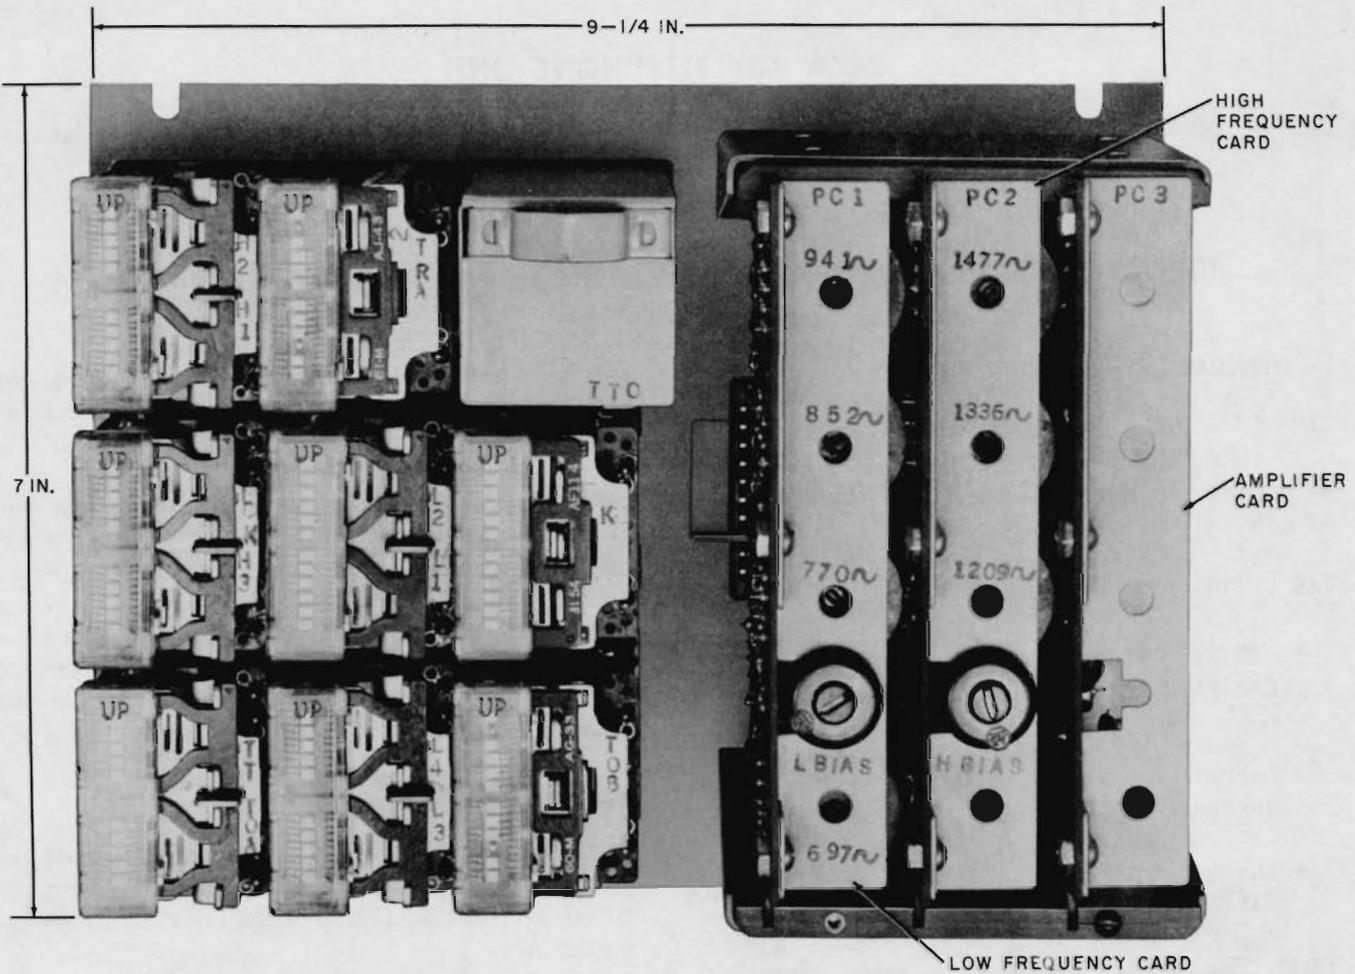

Fig. 1 — 247A KTU, TOUCH-TONE Adapter, Front View
2.01 The 247A KTU (Fig. 1 and 2) converts multifrequency tones, generated by TOUCH-TONE telephone sets, into relay operations for signaling selected stations.
3.02 The TOUCH-TONE adapter will fit a 9-1/4 by 7-inch mounting space. (See Fig. 1 and 2.)